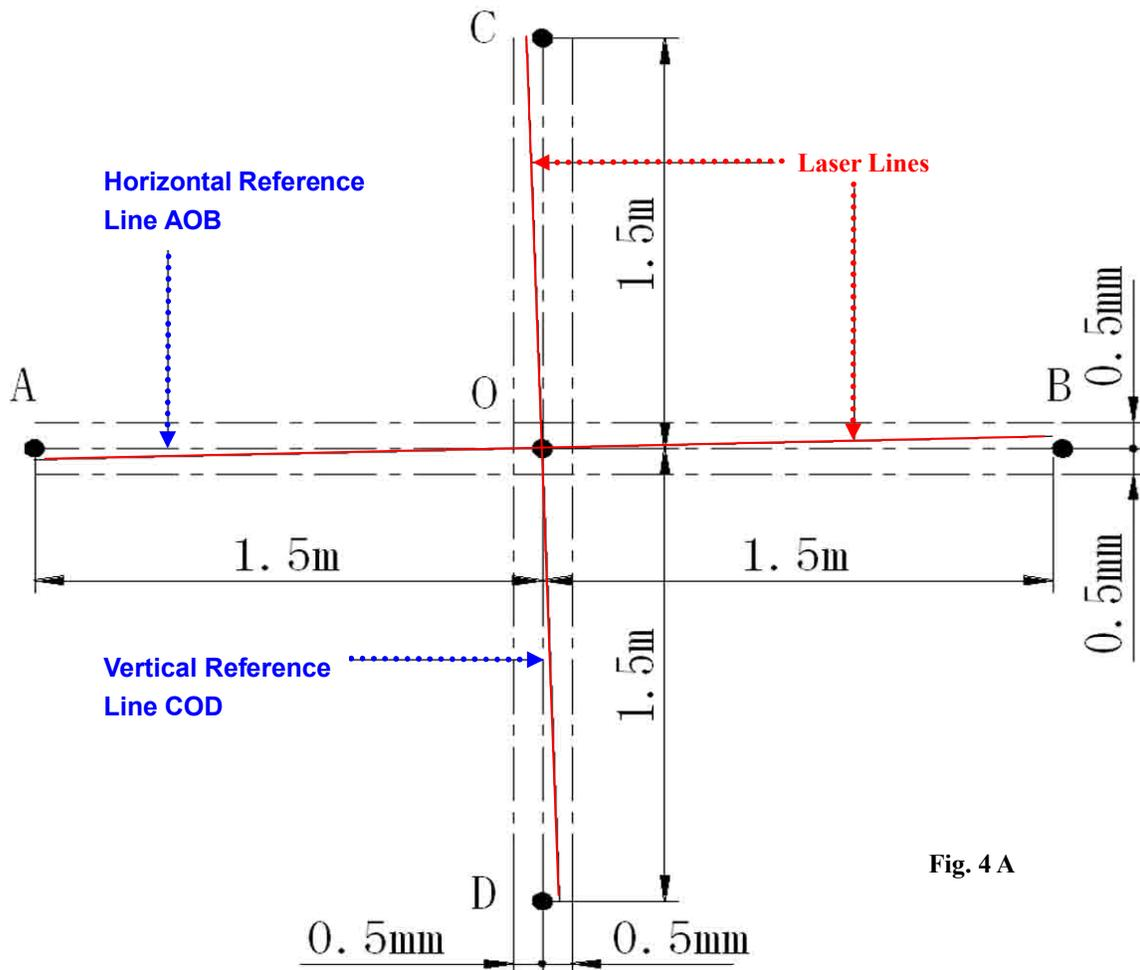

Fig. 4 A
3. Mark lines on both sides of each reference line that are 0.5 mm from the lines. (see Fig. 4 A)